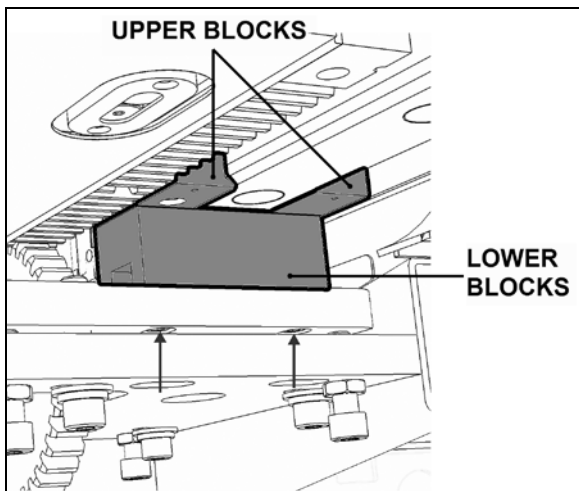

**FIGURE 28: RAIL POSITIONING**
*The rail is bolted to a flat bar on which weldnuts are mounted. The flat bar is inserted in the slide-out lower body extrusion and can be removed through the end cap (Figure 28).*
8. Adjust the rail position per Figure 28. For each rail, make sure the gap is the same on both sides of the rail. Use acetal blocks to inspect the gap.